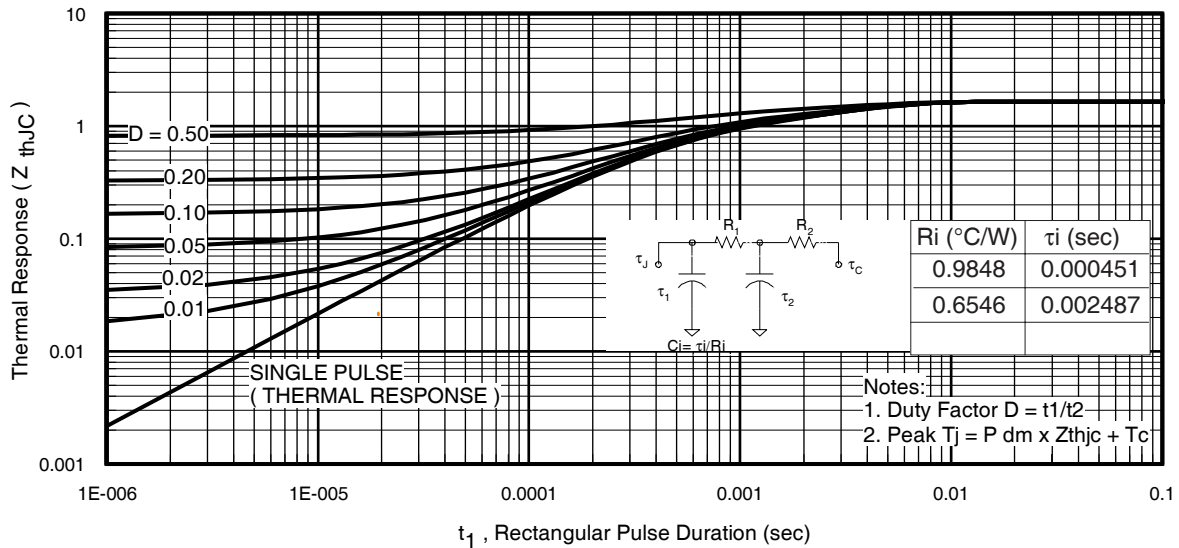

Fig 11. Maximum Effective Transient Thermal Impedance, Junction-to-Case
- ① Repetitive rating; pulse width limited by max. junction temperature. (See fig. 11).
- ② Limited by T_{Jmax} , starting $T_J = 25^\circ\text{C}$, $L = 0.11\text{mH}$, $R_G = 25\Omega$, $I_{AS} = 37A$, $V_{GS} = 10V$. Part not recommended for use above this value.
- ③ $I_{SD} \leq 37A$, $di/dt \leq 920A/\mu s$, $V_{DD} \leq V_{(BR)DSS}$, $T_J \leq 175^\circ\text{C}$.
- ④ Pulse width $\leq 1.0\text{ms}$; duty cycle $\leq 2\%$.
- ⑤ $C_{oss\ eff.}$ is a fixed capacitance that gives the same charging time as C_{oss} while V_{DS} is rising from 0 to 80% V_{DSS} .
$Z_{thJC}(D, t_{av})$ = Transient thermal resistance, see figure 11)